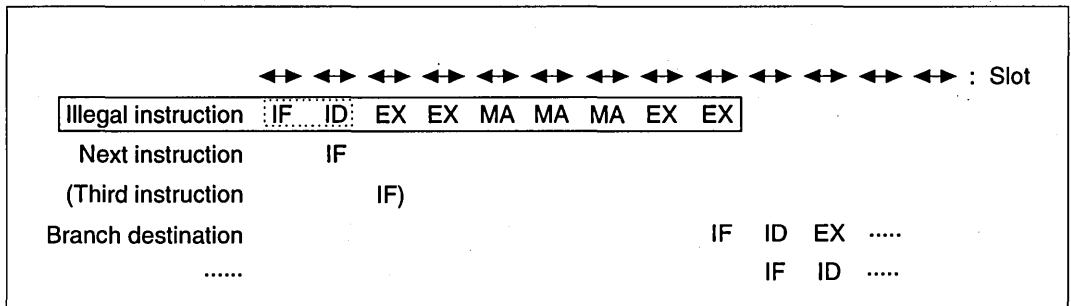

Figure 8.97 Illegal Instruction Exception Processing Pipeline
Operation: The illegal instruction is received during the ID stage of the instruction and everything after the ID stage is replaced by the illegal instruction exception processing sequence. The pipeline has nine stages: IF, ID, EX, EX, MA, MA, MA, EX, and EX (figure 8.97). Illegal instruction exception processing is not a delayed branch. In illegal instruction exception processing, an overrun fetch (IF) occurs. Whether there is an IF only in the next instruction or in the one after that as well depends on the instruction that was to be executed. In branch destination instructions, the IF starts from the slot that has the final EX in the illegal instruction exception processing.